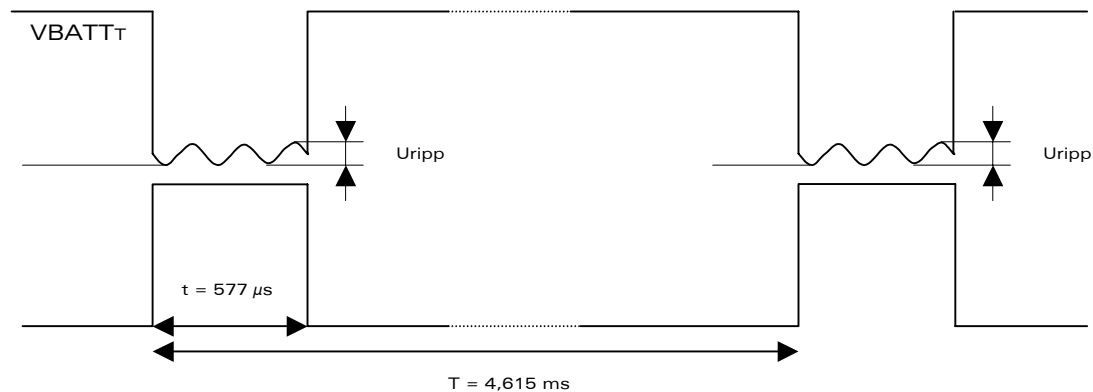

Figure 2: Power supply during burst emission
- In communication mode, a GSM/GPRS class 2 terminal emits 577μs radio bursts every 4.615ms. (see the Figure 2: Power supply during burst emission).